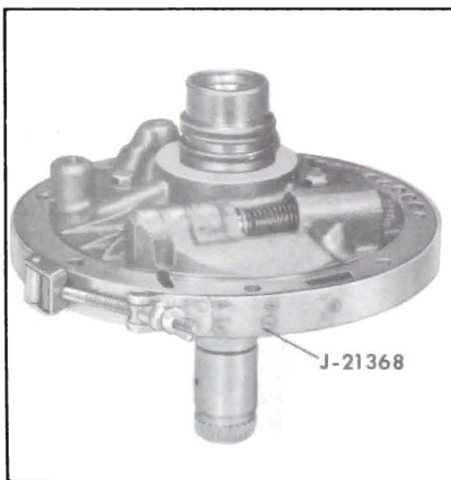

Figure 5-211
8. Install pump cover to pump body. Install five (5) retaining bolts but do not tighten. Place Tool J-21368 around pump to obtain proper alignment. Tighten bolts to 16-24 ft. lbs. torque. See Figure 5-211.